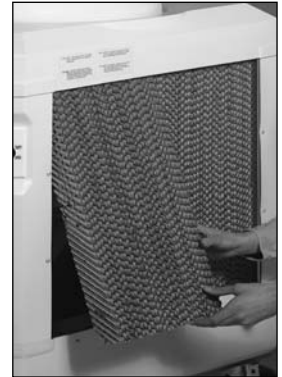

Figure WC-1/3HP.10 - Pads
5. Remove the cooling pads from all four sides of the unit. Place a putty knife or large flat-blade screwdriver under the pad to lift it up, then outward. With one pad out, the rest can be easily removed by placing one hand on the pad's inside, your other hand on the outside and lifting the pad up and out from the bottom (see Figure WC-1/3HP.10 - Pads).